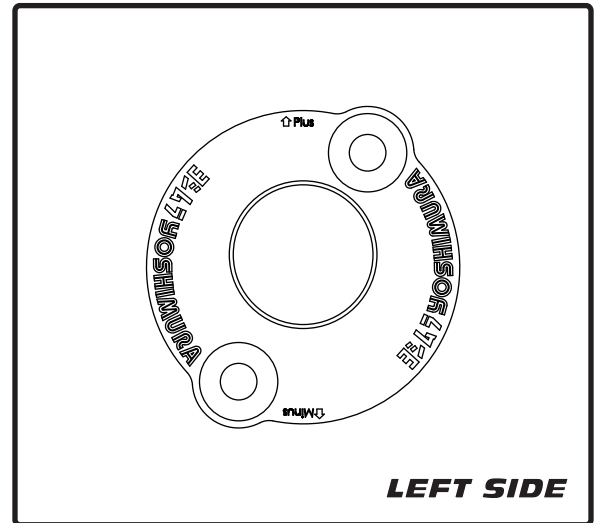

Fig. 4
13. Install left side Yoshimura pivot shaft plate using stock bolts (Fig. 4).